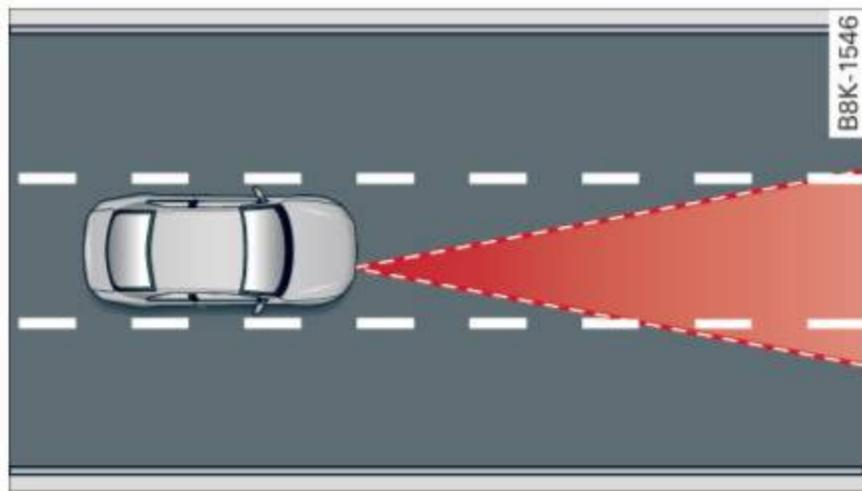

Fig. 96 Detection range
- Objects can only be detected when they are within sensor range ⇒ *page 91, fig. 96*.